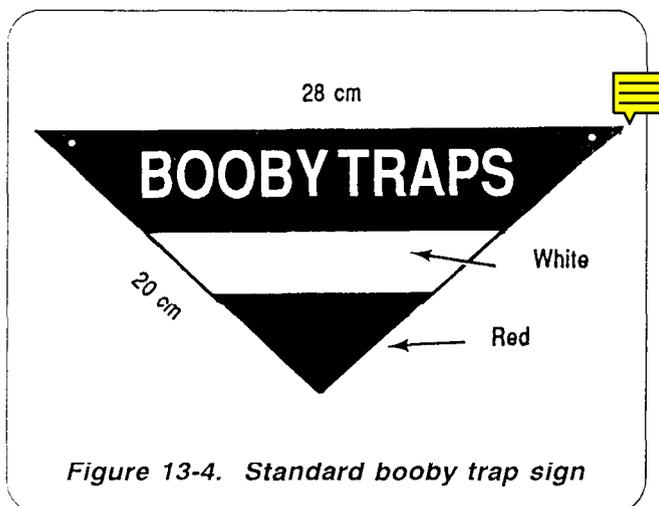

Figure 13-4. Standard booby trap sign
**Marking.** As with nuisance minefield, mark booby-trapped areas until they are evacuated. Whenever possible, use standard booby trap signs (Figure 13-4). When signs are not available, use temporary marking (any barrier or fence) to clearly indicate a booby-trapped area. Remove the temporary marking after the area is evacuated and before the enemy reconnoiters the area.